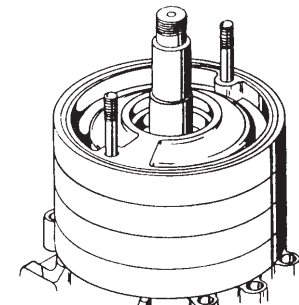

Figure 4-9
14. To complete the second stage assembly, install a right hand channel ring (#9B) facing downward toward the impeller.(refer to figure 4-9) The small discharge opening should be in the "seven o'clock" position.